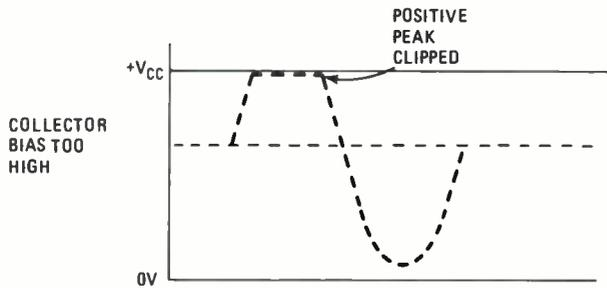

Fig. 21—Incorrect bias can cause distortion by clipping.
51. (7.5) If the bias is set so that the collector voltage is higher or lower than  $V_{CC}/2$ , then the linear output range will be reduced or limited. The output voltage will "bump up against"  $+V_{CC}$  or ground, which causes the peaks of larger signals to be "flattened," or "clipped off." Figure 21 shows an example. The clipping is called *distortion*. With distortion, the output is no longer an enlarged replica of the input.